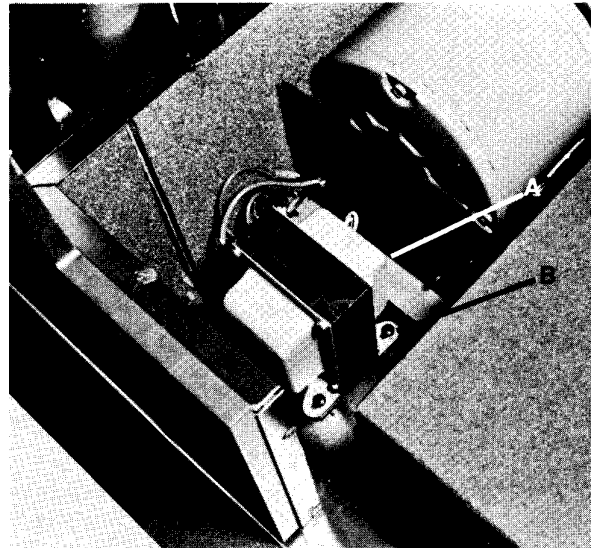

Fig. 44
The transformer, Item A, Fig. 44 steps the 120 VAC line voltage down to 12.6 VAC. The 12.6 VAC is the supply voltage for the illumination lights recessed into each leg support and the PC board.
- 2) Remove the (4) screws, Item B, Fig. 44 securing the transformer to the chair base.
- 3) Place new transformer in position, align holes, and install (4) #10-24x $\frac{3}{8}$ " screws, Item B, Fig. 44.